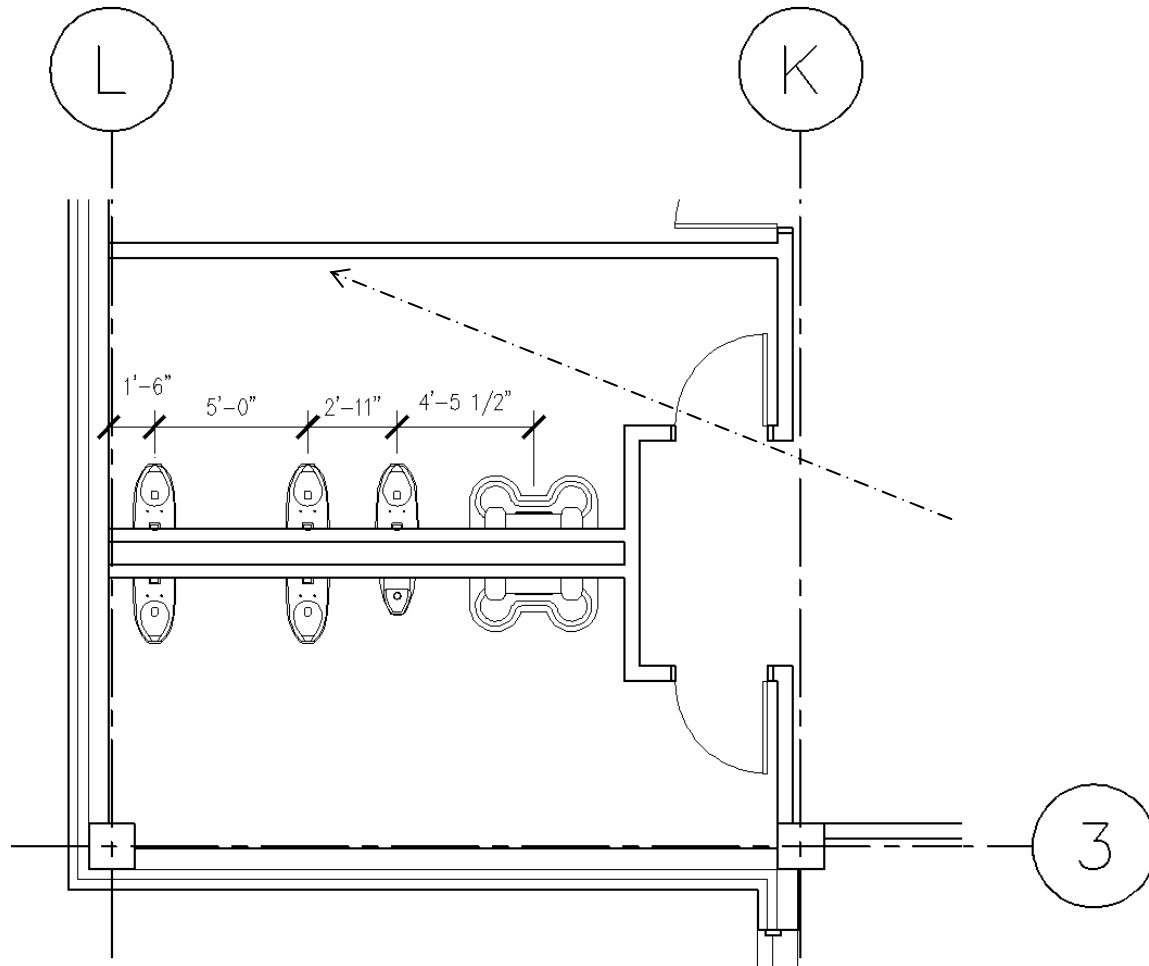

Figure 3-1.8 Place the fixtures shown; dashed line shows sightline
16. Insert the plumbing fixtures as shown in Figure 3-1.8, *plus*:
Sight-lines are typically explored by drawing a line from the adjacent hallway (or space), through the door opening, into the toilet room. Looking at Figure 3-1.8 you can see the sight-lines are quite acceptable. As previously mentioned this design solution takes up a fair amount of floor space but is necessary.